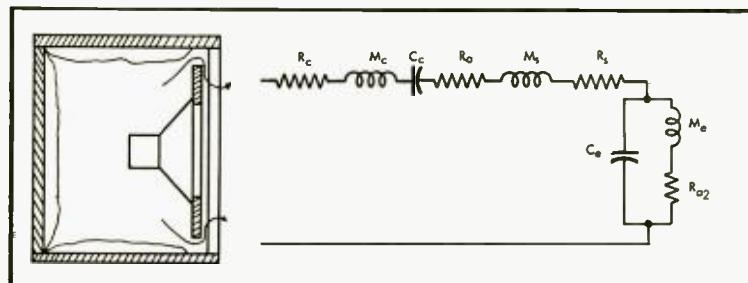

Fig. 18. Cross section and analogy of RJ enclosure.
**Slot Diffusion.** This involves mounting the loudspeaker not facing into a circular hole as is normally done, but into a narrow vertical slot. The initial advantage claimed for this was an improved treble distribution. A second advantage of using a slot is that the reduced area in which the cone is radiating increases the mass and friction loading on the cone and thereby lowers the resonance both in frequency and amplitude. The analogous circuit of the RJ enclosure circuit is shown in Fig. 18.